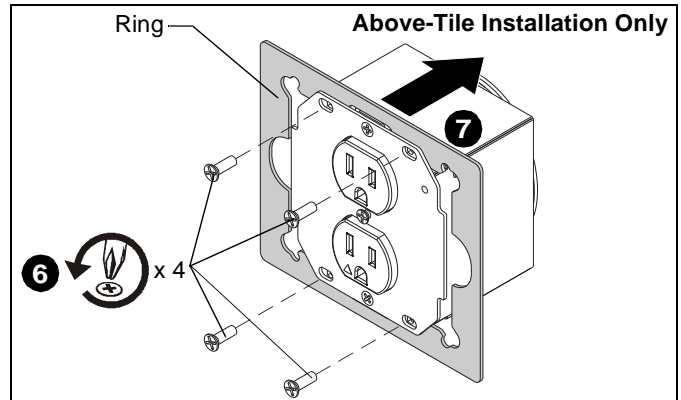

Figure 10
- Remove four Phillips screws from ring attached to outlet box. (See Figure 10)
- Remove and discard ring from outlet box. (See Figure 10)